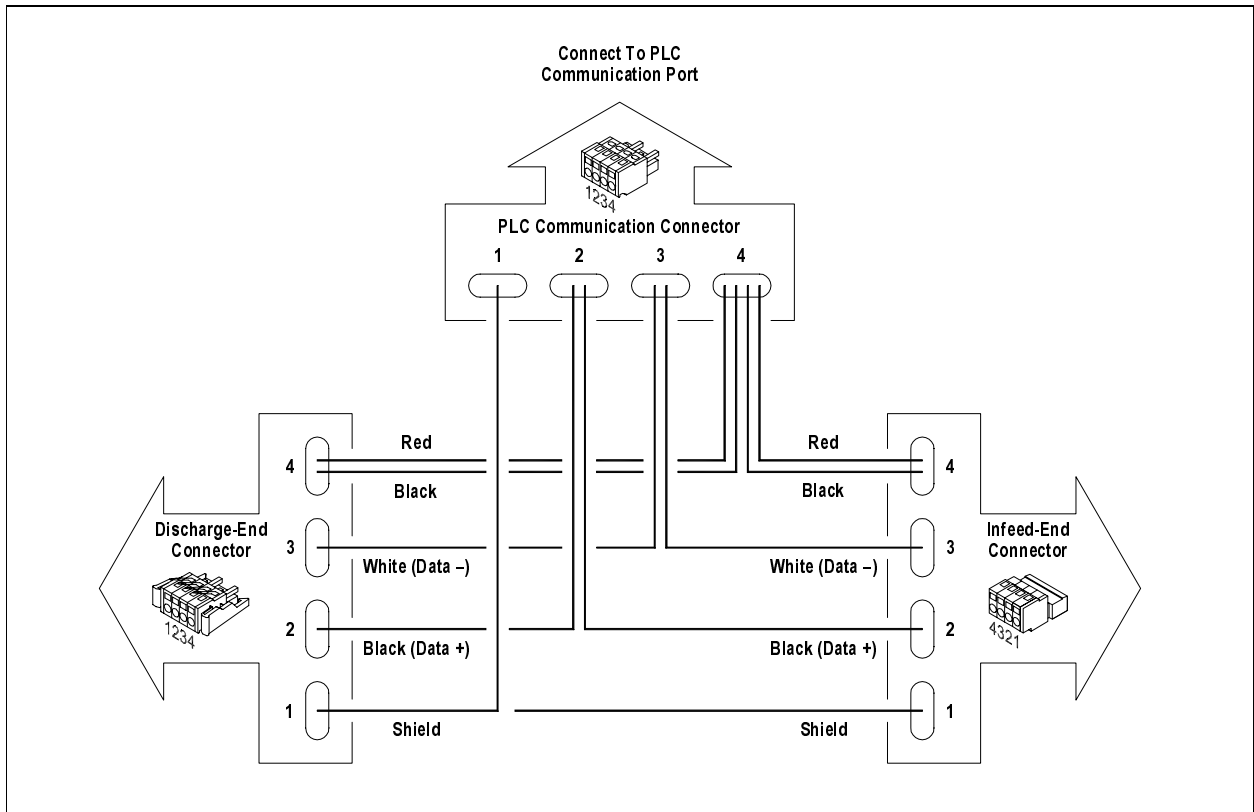

Figure H.8 – Wiring Connectors on a PLC Communication Harness
- Communication Harness (see Figure H.8), and